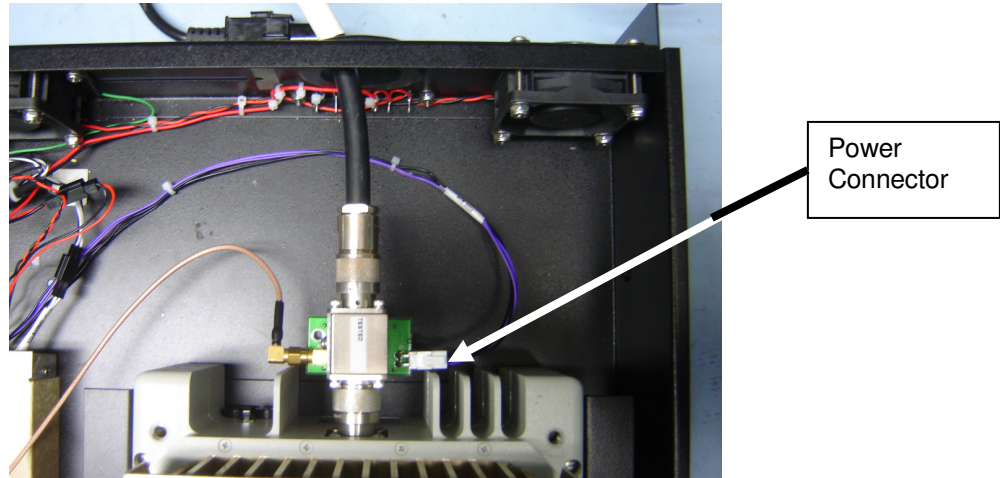

Figure 3-8: Connecting Cable to ChannelMaster RF Output
- 3.2.8 Diplexer Option Installation - Install Diplexer on RF output connector of ChannelMaster (*N type Connector*). Attach RF cable from Nycoil to output of Diplexer (*N type connector*). (Refer to Figure 3-8). (*The Diplexer is used to combine the +24 power and control signals onto the RF Coax Center Conductor*).